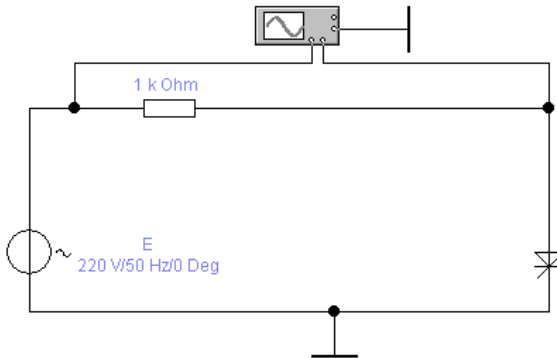

Figure 7.1 - Turn on the thyristor on the anode circuit
- 1 Draw a diagram of Figure 7.1.